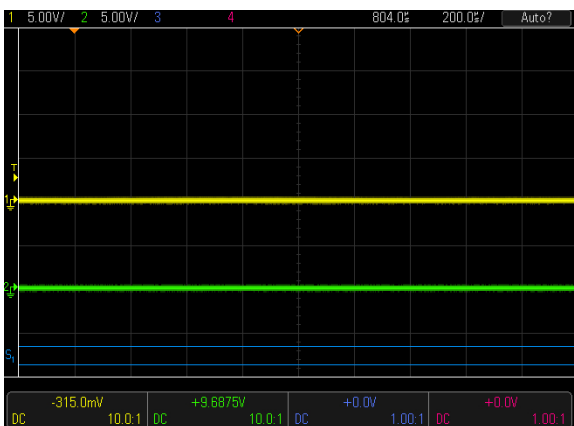

Figure 3: Keysight channel settings
1. Turn on the scope and then turn on two of four input channels by pressing the buttons with numbers on them in the vertical section of controls until the traces appear on the screen (Fig. 3). In this example we’ll use channels 1 and 2.